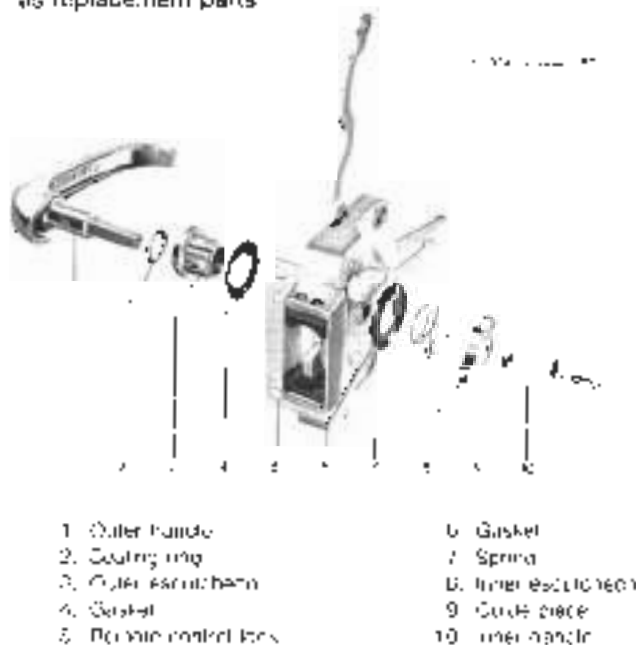
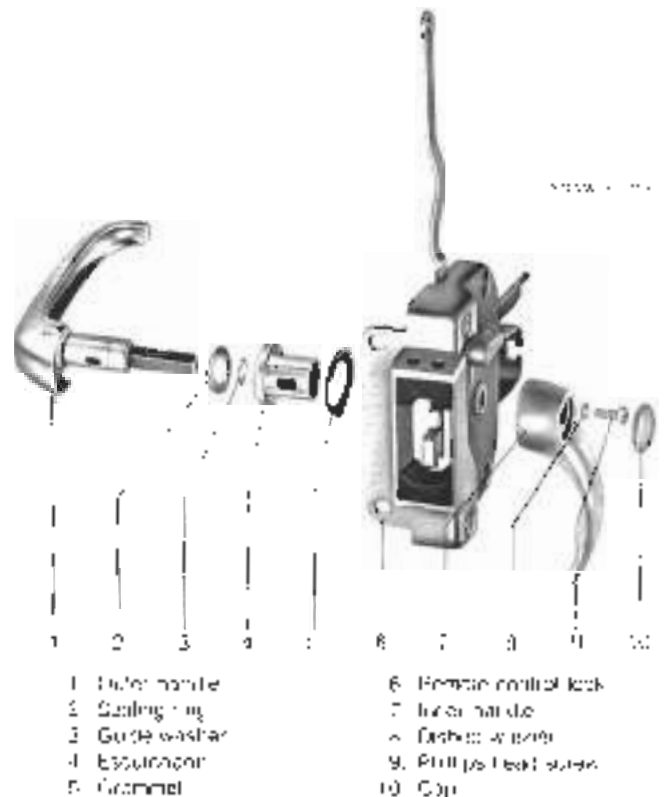

Fig. 5-47. Components of early lock (1960-1970).
Fig. 5-48. Components of late lock (from 1971).
- Pull the remote control lock down until its upper control rod is out of the door inner panel, then remove the lock. If necessary, the remote control lock can be disassembled as shown in Fig. 5-47 or Fig. 5-48. The components shown are those available as replacement parts.